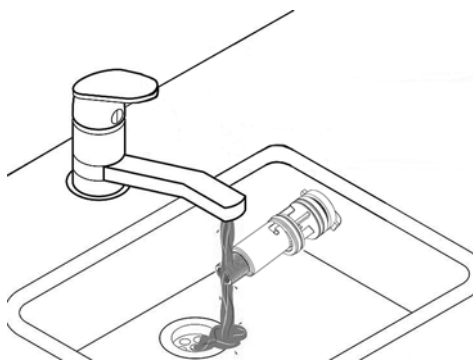
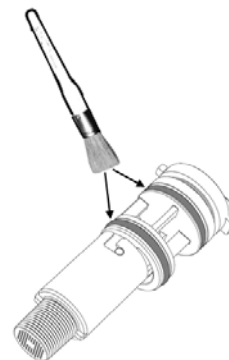

fig. 48
fig. 49
- The flowmeter components can thus be cleaned (see fig. 48 and fig. 49) or replaced.